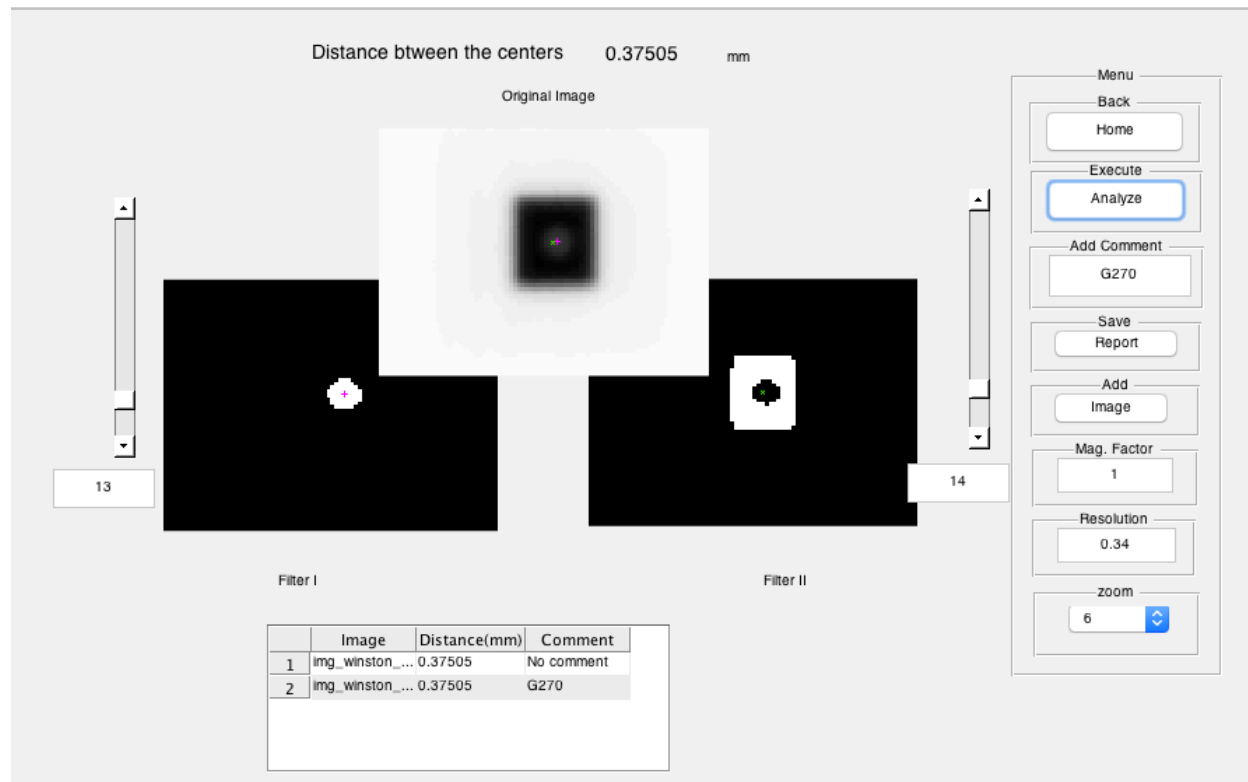

Fig. 10: Winston-Lutz test (Result)
7. Click 'Analyze' to complete the analysis (fig. 10).